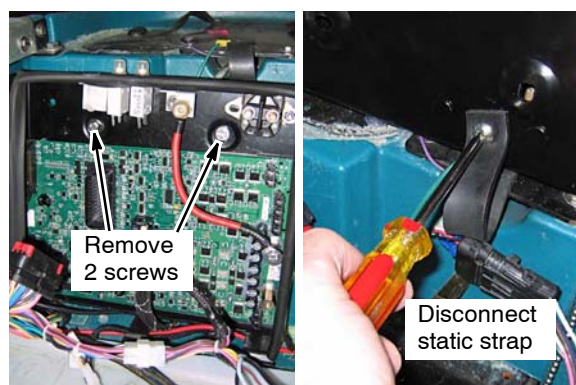

Fig. 3
5. Remove the old control box from the machine (Figure 3).